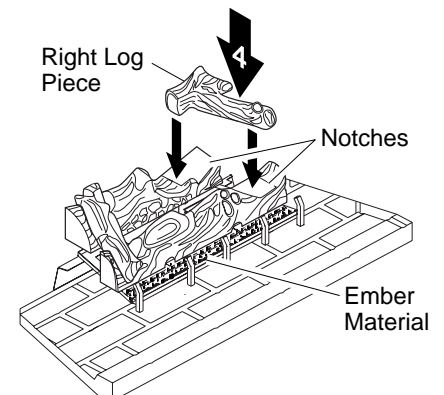

Figure 23 - Installing Right Log Piece
4. Place the "T"-shaped, right log piece into the notches on the right side of the front and rear logs (see Figure 23).